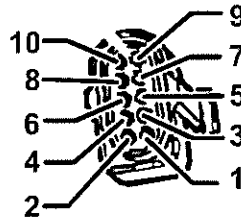

Fig 29 10-pin injection pump connector – socket
68.14 Undo the connector for air mass flow meter (G70) (see Fig 29). The air mass flow meter (G70) is located on the off-side of the engine in the fresh air line to the turbocharger. Switch ON the ignition.
72.8 Check wires between test box and connector for breaks (see Fig 29) using vehicle wiring diagram: